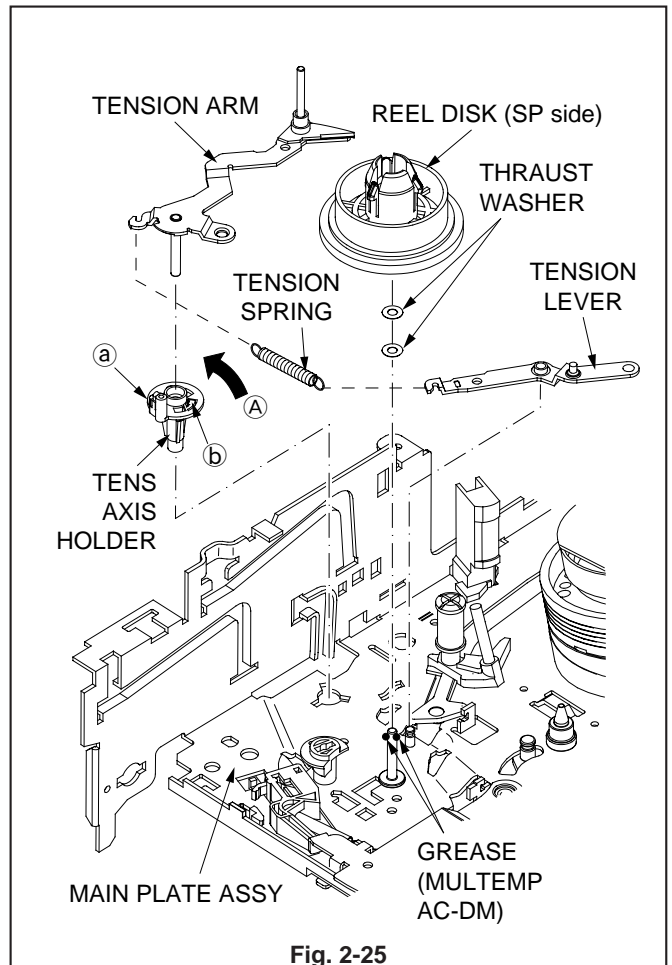

Fig. 2-25
1. Remove the TENSION SPRING shown in Fig. 2-25.
2. Release the catch (Ⓐ) of the TENS AXIS HOLDER shown in Fig. 2-25 to remove the TENSION ARM.
3. Remove the TENSION LEVER shown in Fig. 2-25.
4. Release the catch (Ⓑ) of the TENS AXIS HOLDER shown in Fig. 2-25. Move the TENS AXIS HOLDER in the direction shown by arrow Ⓐ to remove it.
1. Apply grease (MULTEMP AC-DM) [859D055O90] to the specified parts on the MAIN PLATE ASSY in Fig. 2-25.